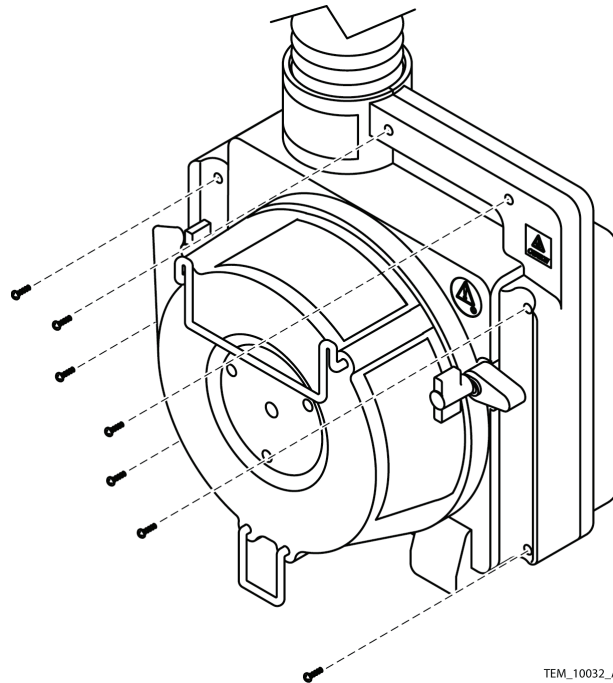

Figure 19. Cover Screw Locations
2. Install the screws through the holes in the rear cover to attach it to the front cover. Tighten screws to 7 to 10 in/lbs (18 to 25 cm/kg). See Figure 19.